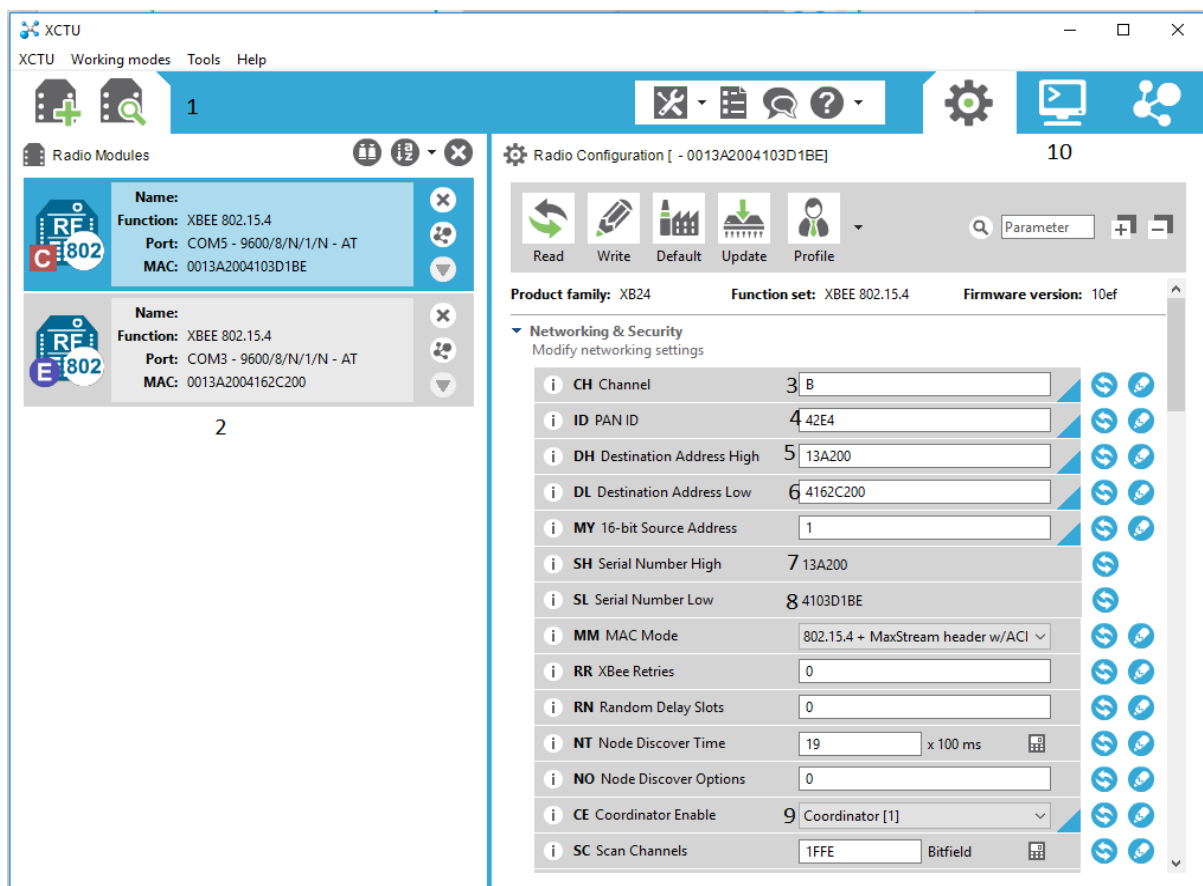
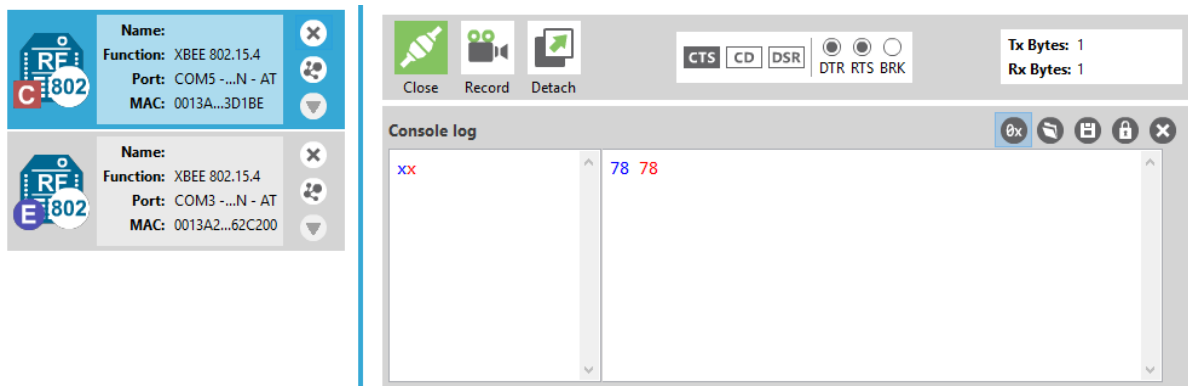

Figure 26. XCTU user interface.
Figure 27. Coordinator sending data (blue) and receiving data (red).
use graphical interface as shown in Figure 26. The first step for interfacing with the XBee modules is to detect the devices (1). When detected they appear as separate icons in the Radio Modules field (2). In order to establish a connection between the XBee's, their channels (3) and PAN (Personal Area Network) have to have the same value. Here the channel value goes from 0x0B to 0x1A (11-26) which represent the channel numbering of the 2.4 GHz frequency band – $F_c = 2405 + 5(k - 11)$ in megahertz, for $k=11,12,..26$. Furthermore, the destination address DH and DL (5 and 6) on one of the XBees have to be identical to the serial numbers SH and SL (7 and 8) on the other XBee and vice-versa. In order to meet the 802.15.4 network topology requirements, one of the XBee modules is set to be a PAN coordinator (9) in order to establish a star topology. Finally, the console working mode (10) is entered so that data can be inputted and transmitted between the devices. This is shown in Figures 27 and 28.
In order to establish a connection between the USRP and the XBees the carrier frequency must be set in order to match the channel of the XBees. From Figure 26 the channel is B which from hexadecimal is 11 \rightarrow carrier frequency of 2.405 GHz must be chosen (Note: The USRP suffers from high carrier frequency offset, which is more than the 802.15.4 standard can cope with.).